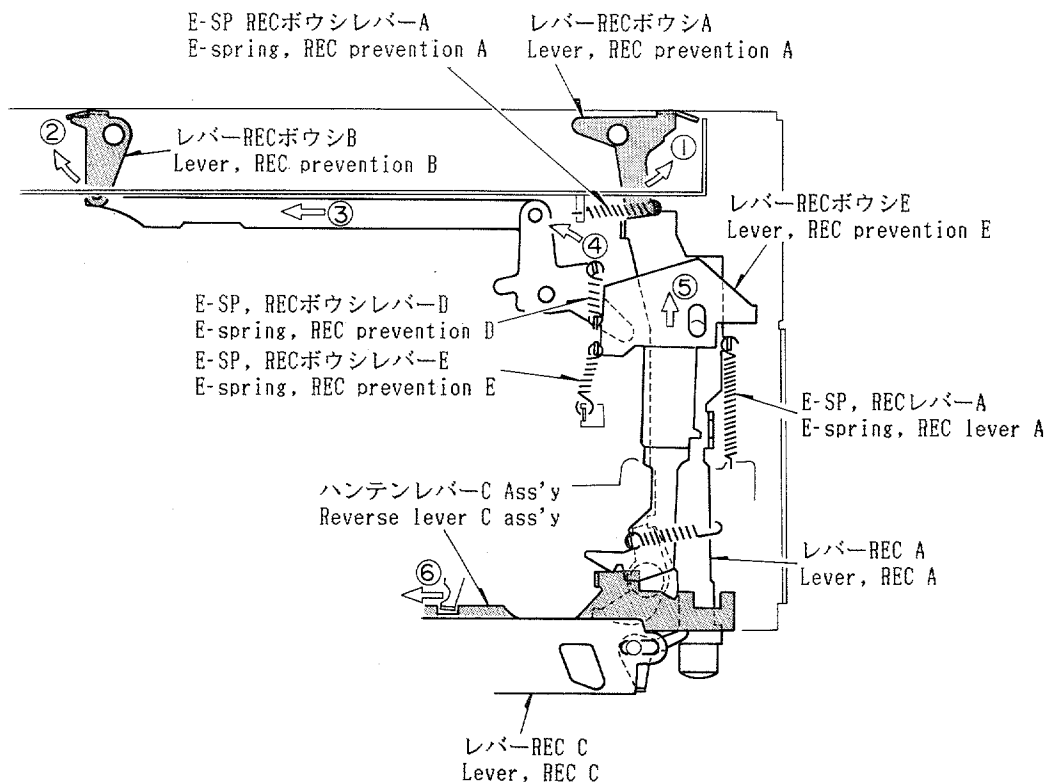

Fig. 14
カセットテープのツメが折れているとレバーRECボウシは矢印①方向に作動しないため、レバーREC Aは押せません。(Fig.14参照)
- 1) レバーRECボウシBが矢印②方向に動くとき、レバーRECボウシC, D, Eが③, ④, ⑤方向へ動きます。この状態でハンテンレバーC Ass'yが反転しても、REC状態はつづきREVERSE・RECとなります。(Fig.14参照)
Using a removed erase protection tab of cassette never moves the lever, REC prevention in the direction of arrow ①, resulting in preventing the lever REC A from moving. (See Fig. 14)
- 1) Installing a cassette with the erase protection tab moves the lever, REC prevention B in the direction of arrow ②, pulling the levers, REC prevention C, D and E in the direction of arrows ③, ④ and ⑤ respectively. Even if the reverse lever C ass'y changes its position in this state, the recording mode can be maintained, setting up the reverse recording mode. (See Fig. 14)